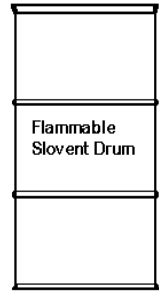

Fig. 1
2. Drum must be in vertical position. Fig. 1